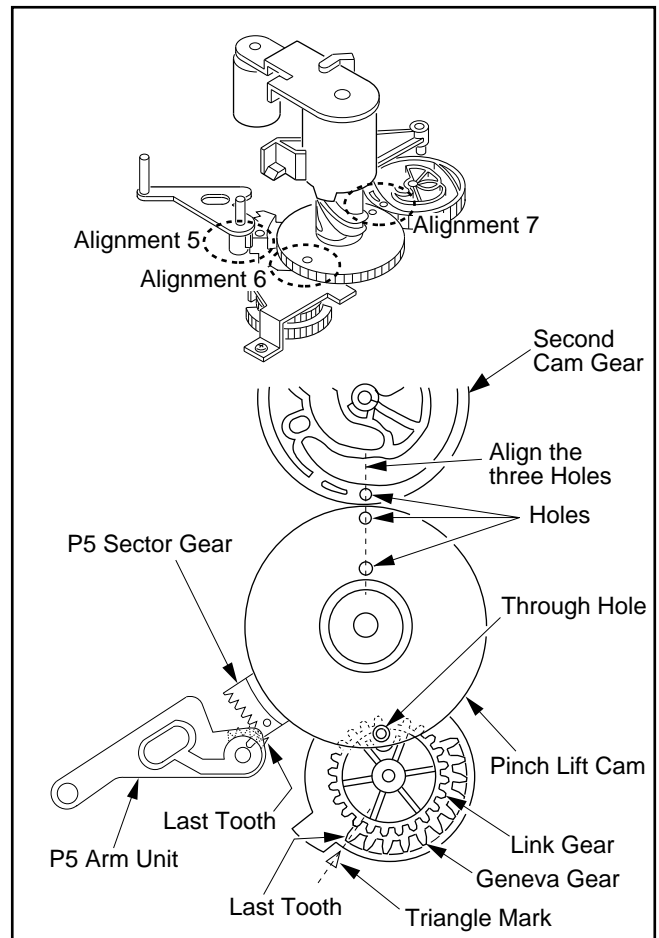

Fig. A6
2. Install the P5 Arm Unit so that the last tooth of the gear is just outside the teeth of the P5 Sector Gear as shown in Fig. A6.
3. Install the Pinch Lift Cam so that the through hole on the Pinch Lift Cam is aligned with the hole on the Link Gear as shown in Fig. A6.
1. Install the Second Cam Gear so that the hole on the Second Cam Gear is aligned with the holes on the Pinch Lift Cam as shown in Fig. A6.